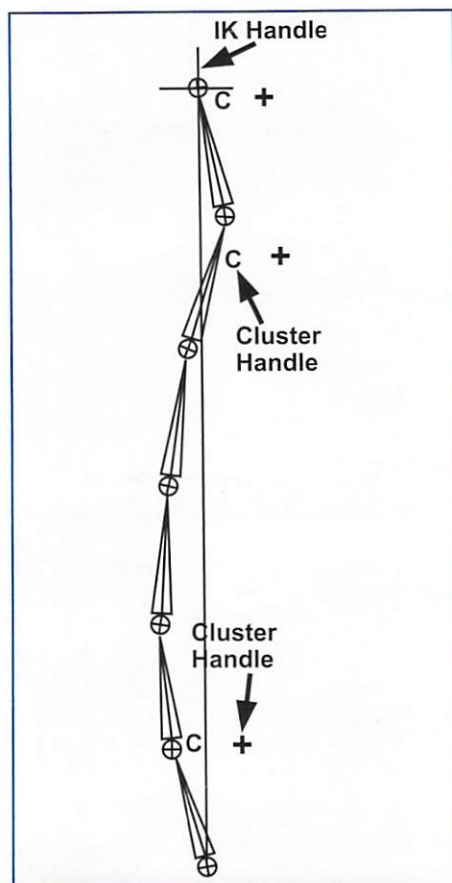

FIG. 14 – THE THREE SELECTION HANDLES (+ SIGNS) FOR MOVING EACH OF THE CLUSTER HANDLES.
*Handles.* This will put a small plus sign on the "C" cluster handle. Press F8 to go into component type and click the + sign (Selection Handles Component) at the top of the screen. Turn off all the other component types. This will make it easier to select the cluster + handle. Draw a selection around the selection handle. Move it behind the "C" cluster handle so it will be easy to find and select. Repeat these steps to make selection handles for the other two cluster handles (Figure 14).